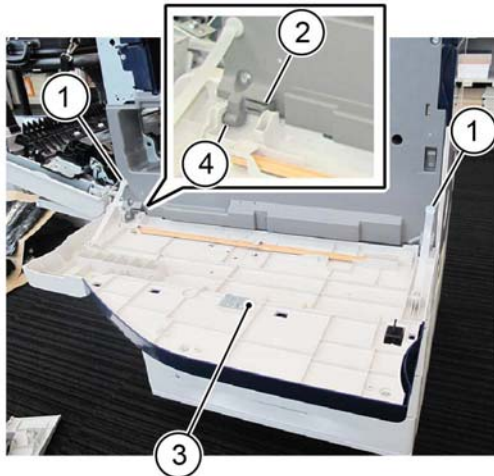

Figure 1 Front cover removal
2. Remove the front cover, Figure 1:
- a. Rotate the two strap (1) 90 degrees, then disconnect.
- b. Press the stopper (2), then move the front cover (3) to the left. Remove the front cover from the boss (4).